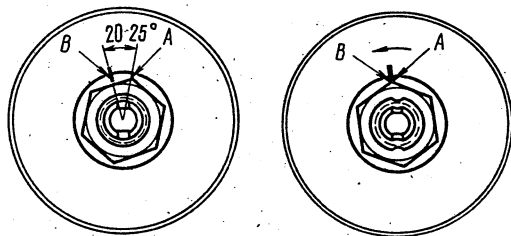

Fig. 4-5. Adjusting the Front Wheel Hub Bearings:
- make mark B on the washer (Fig. 4-5) then back off the nut through 20 - 25° until the first edge A gets in line with the mark;